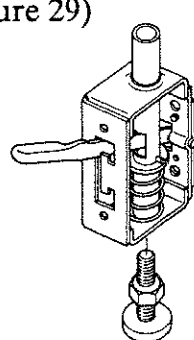

Fig. 29 - Left Foot Assembly
15. Screw the *leveling foot* into the *rod* until the hex nut reaches the bottom of the *rod*. (Figure 29)